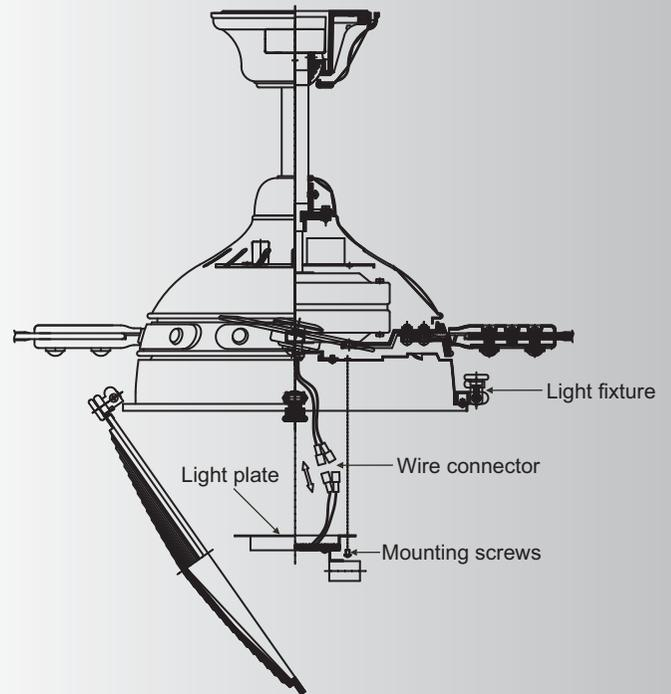

Fig. 19
Step 1. Loosen the three mounting screws on the inside of the light fixture and "remove" and save the fourth screw. (Fig. 19)
Step 2. Hold the light plate close to the light fixture and connect the white wires from the light plate and the fan. Follow the same procedure with the black wire connectors. (Fig. 19)
Step 4. Place the light plate key hole slots over the three screws previously loosened on the light fixture and turn the light plate until it locks in place at the narrow section of the key hole slots. Tighten the three key hole screws and replace the fourth screw previously removed and tighten securely. (Fig. 19)